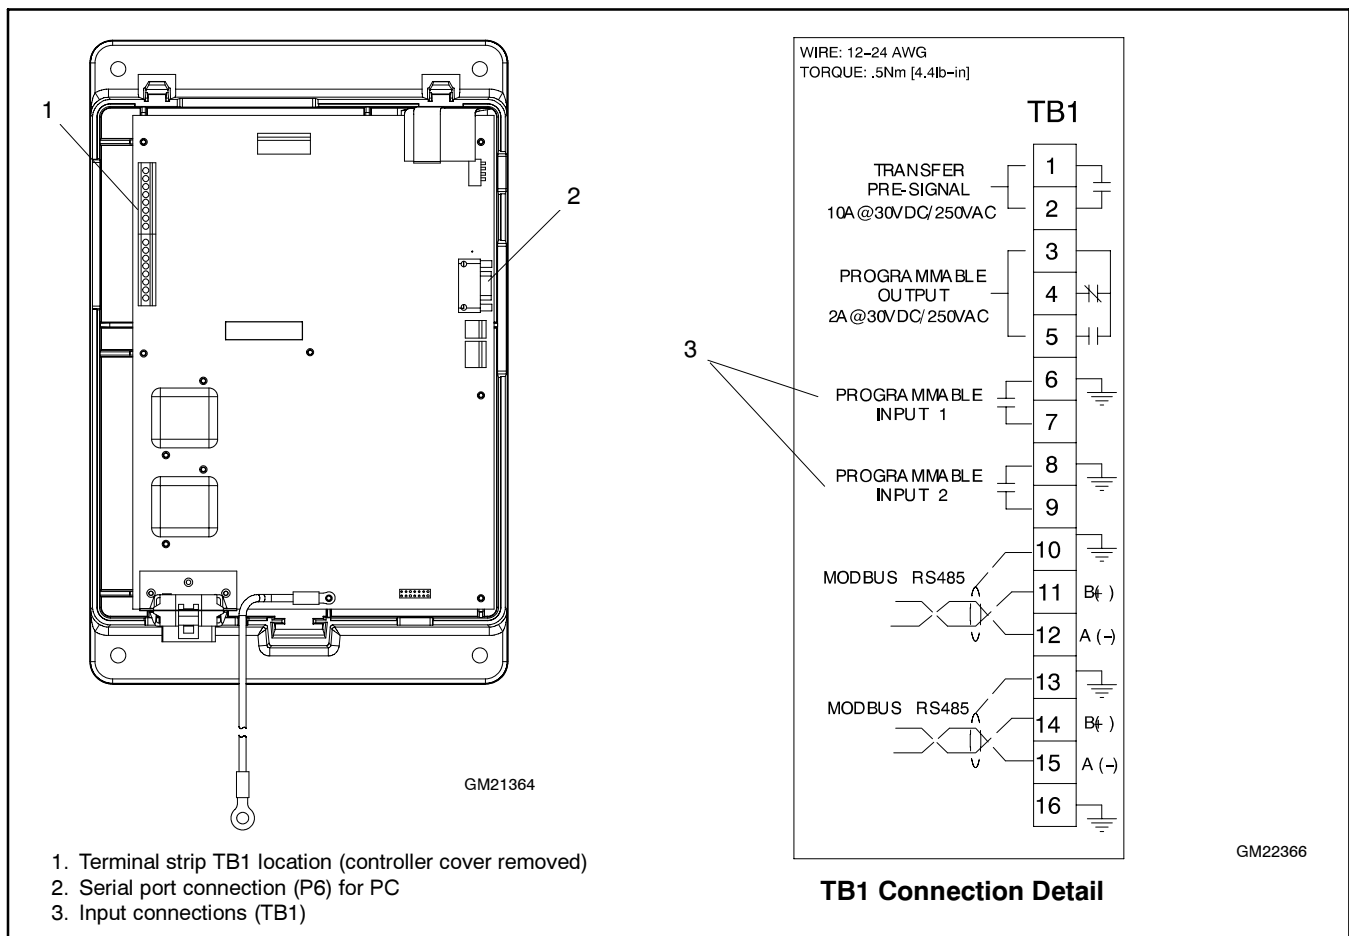
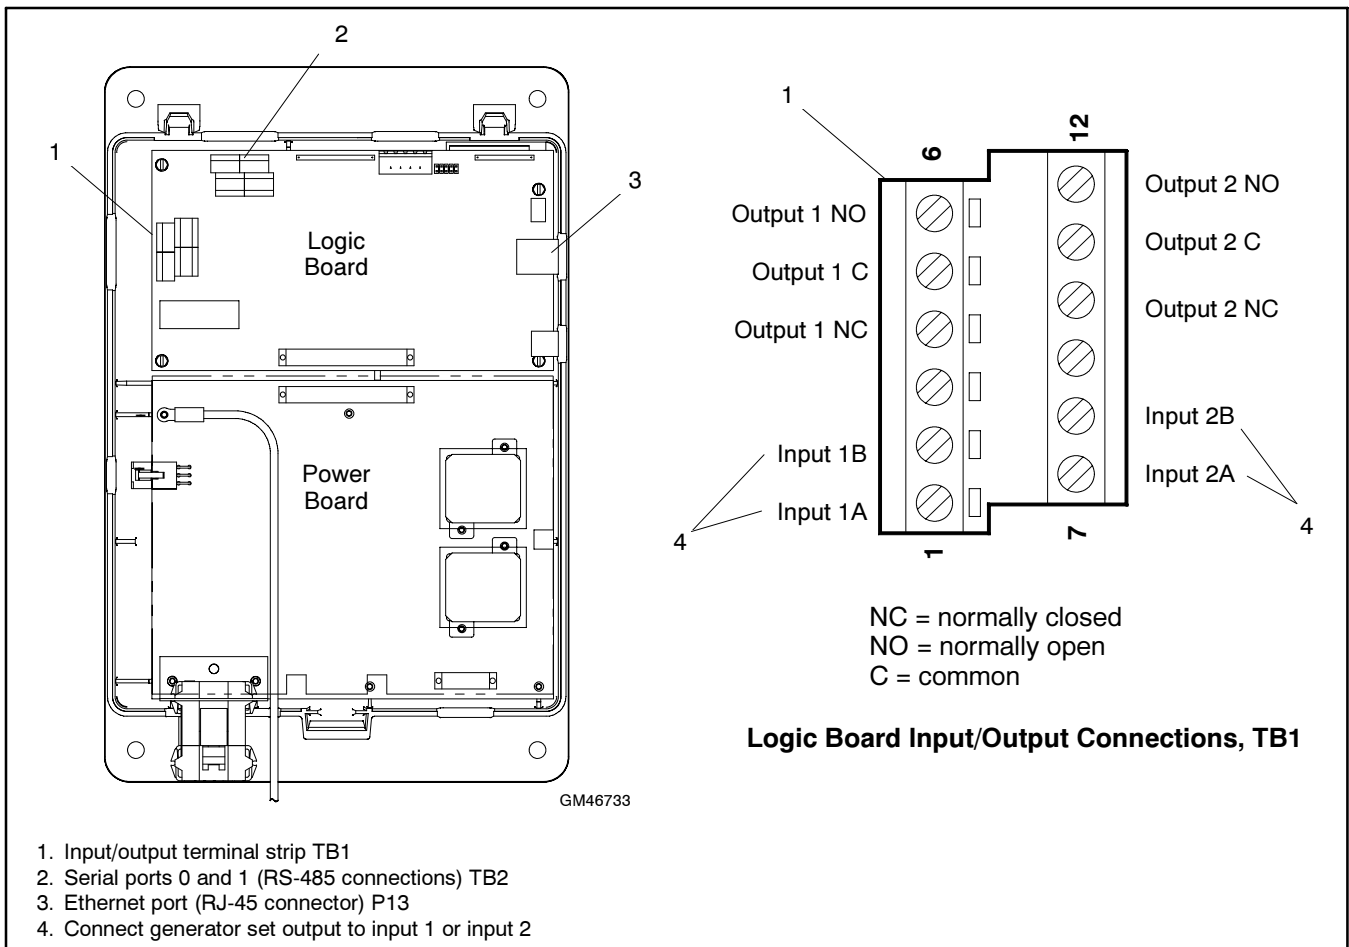

Figure 7 Series 1000 Input Connections
Figure 8 Series 1500 Input Connections
- a. Connect to programmable input 1 or programmable input 2 on TB1 on the ATS controller's main logic board. See Figure 7 or Figure 8.
- a. For the Series 1000, connect the PC to the RS-232 serial port. See Figure 7.
See Figure 8 and Figure 13.
A personal computer running the Setup Program is required to configure the communication parameters for each transfer switch. Use a null modem cable to connect a personal computer to the serial port (P6) on the ATS main logic board. See Figure 7.